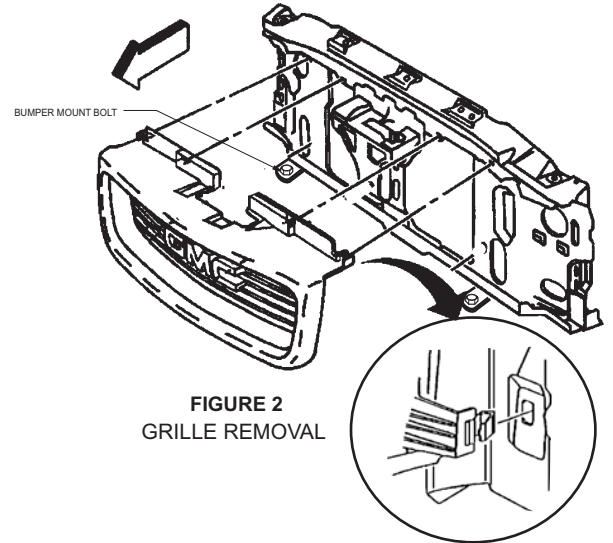

FIGURE 2
- STEP 4. Remove grille from vehicle by locating the 4 clips along top of grille that hold it in place. Gently pry all clips with flat screwdriver and lightly pull outward on grille. **SEE FIGURE 2.**
- STEP 6. Locate and remove two bumper mounting bolts using the 21mm socket and long extension to remove. Attach top brace on bumper bolt and reinstall bumper mounting bolts. Hand tighten. **SEE FIGURE 2.**